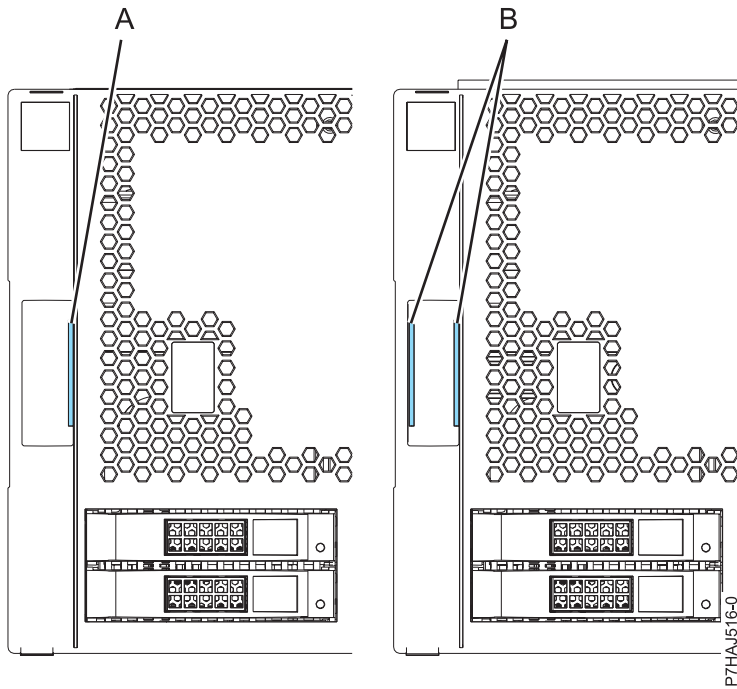

Figure 7. Identifying the older and newer covers
**Note:** The older covers that were shipped before 1 March 2011 can be identified by a single blue stripe (A) on the cover assembly latches. Newer covers that were shipped after 1 March 2011 have two blue stripes (B) on the cover assembly latches. See Figure 7 on page 23.